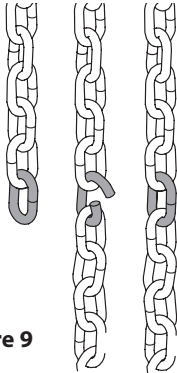

Figure 9
- 2) Connect the hand chain ends together as shown in **Fig 9.** by twisting open the last link on one end of the chain, and slipping the last link on the opposite end onto the open link.